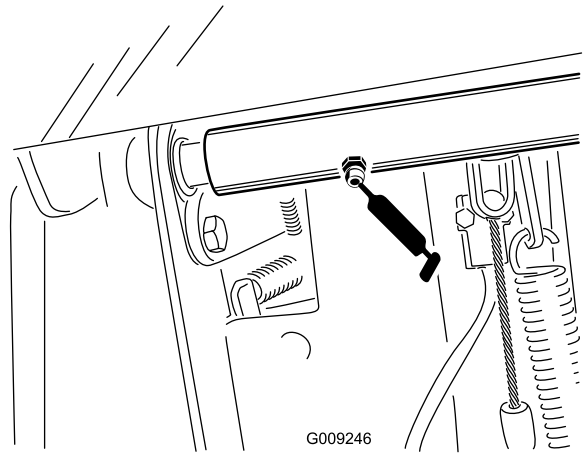

Figure 53
- 1 brake shaft pivot bearings (Figure 53)